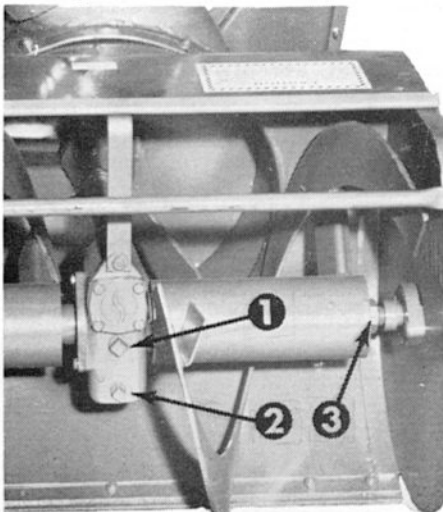

Figure 31
All major bearings of the MA-210 and MA-211 Snowblower that require lubricant are permanently lubricated, or are lubricated from the tractor transmission. However, the operator should check the oil level in the gear box by removing the upper pipe plug. Oil should come up to the bottom of this hole. If the oil level should ever be low, add worm type gear lubricant as recommended for truck worm-gear axles in your area. See Figure 31.
**REEL CLUTCH.** The Reel Clutch is properly adjusted at the factory. If it should become necessary to tighten the protective friction clutch in the reels, turn off the tractor engine, disengage the power take-off, and block the rotation of the fan. Now tighten the large nut on the left end of the reel shaft (as viewed from the rear of the Snowblower). See Figure 31.